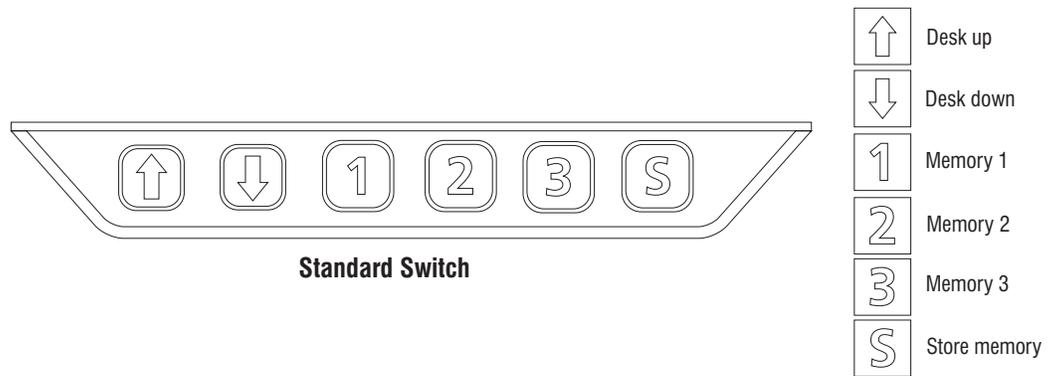

Figure 3
1. To raise or lower the unit, push and hold the Up or Down button, then release when the desired position is reached (Figure 3).
2. To store a position in memory, raise or lower the unit to the desired position. Press the Store memory button, then push the desired Memory button (1, 2 or 3) within two seconds. The position will be stored in memory. Up to three positions may be stored in memory (Figure 3).
3. To raise or lower to a pre-programmed position, push Memory buttons 1, 2 or 3 and hold until table height reaches the stored position (Figure 3).